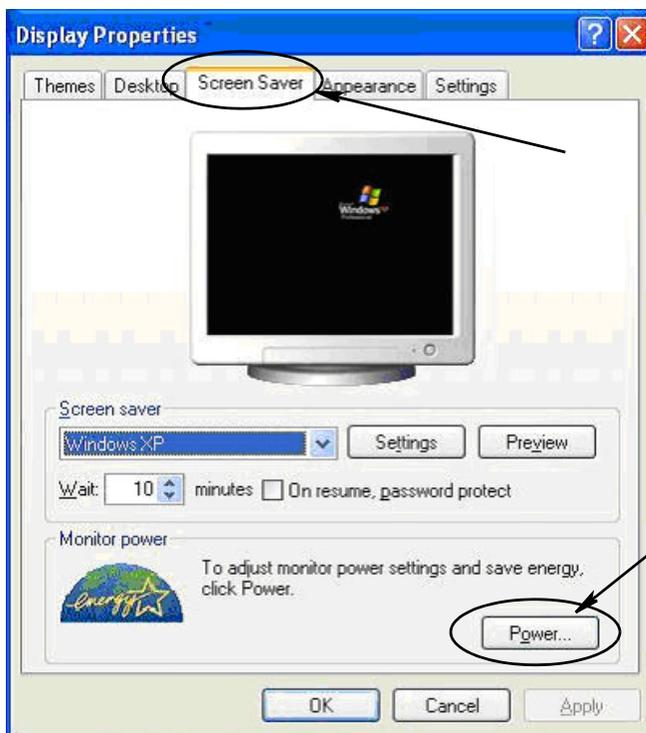

FIG. 14
2. The properties window displays. Choose the Screen Saver tab. In the Monitor Power portion of the screen, select the Power button (FIG. 14).